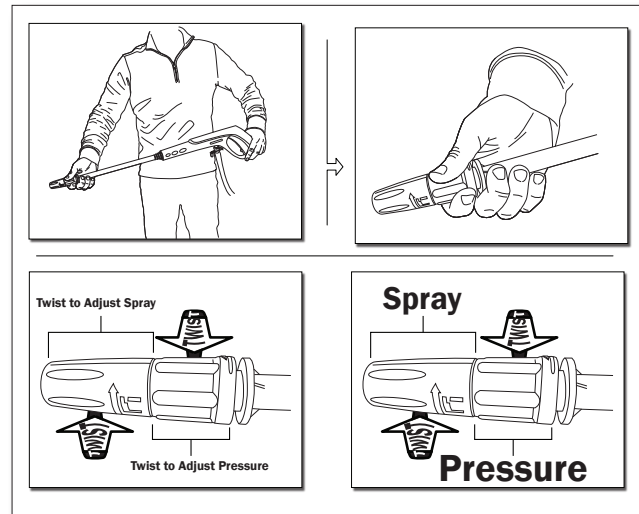

Fig. 23
- Use the high/low nozzle lance when cleaning windows. Be sure to adjust the nozzle to low spray and place the nozzle approximately four to five feet away from the window with the nozzle at forty five degree angle. Squeeze the trigger and vary the spray pattern and angle until optimum cleaning efficiency is achieved (**Fig. 23**).